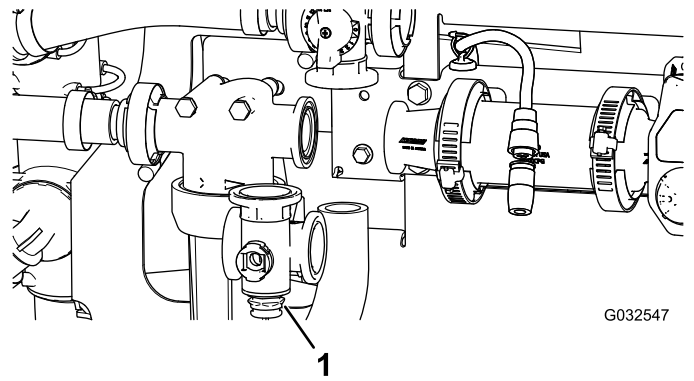

Figure 103
2. Remove the agitation-valve manifold from the machine (Figure 103).